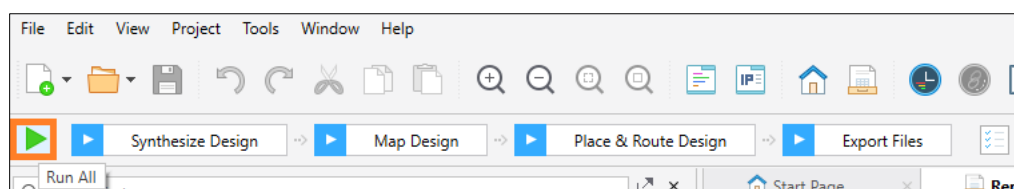

Figure 5.22. Generating Bitstream
- Click the **Run All** icon to generate the bitstream (Figure 5.22).